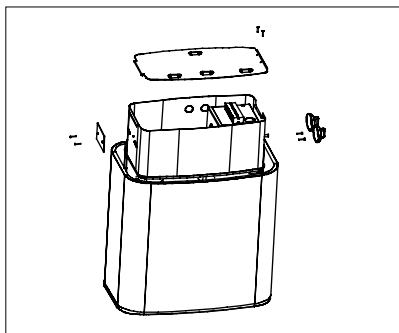

Bild 3.
- Open the optional adjuster's cover plate's screws which are on the other side of the junction box (Figure 3).